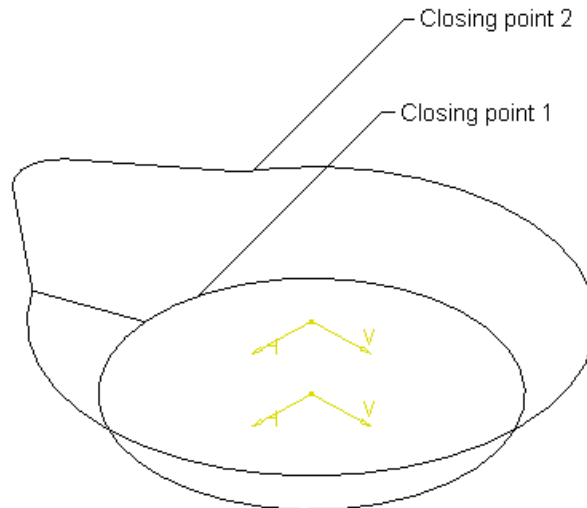

Figure 9-49 The sketch showing the position of closing points
- Create the loft surface, refer to Figures 9-49 and 9-50.
3. Choose the **Replace closing point** option from the contextual menu and select the point on section 1 from the geometry area, refer to Figure 9-49.
5. Select section 2 from the geometry area and replace the default closing point with the closing point given in Figure 9-49.